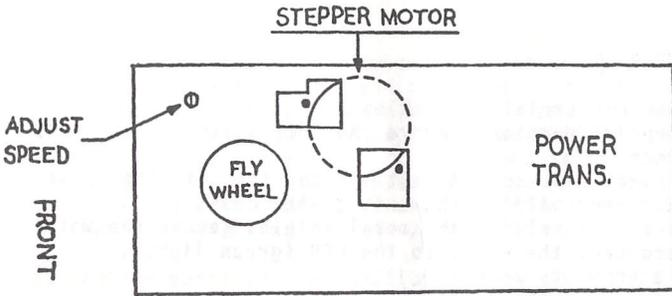
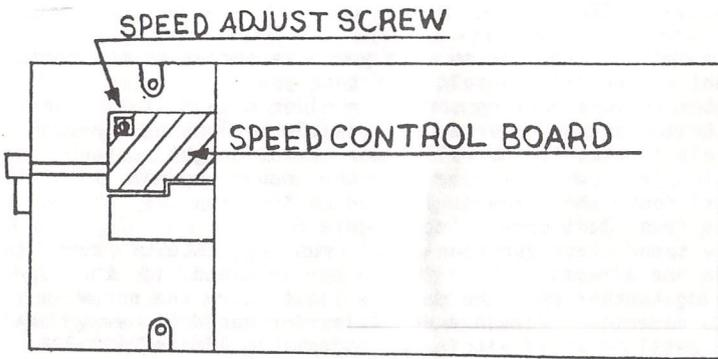

FIG. 1 BOTTOM VIEW
FIG 5 TOP VIEW
- b) Locate the speed adjusting screw. On older models it is located on the bottom of the drive and is visible by looking through a small hole in what is normally the front right corner (see figure 1). If you have one of the newer models with the 'flipper' door, the screw is located on the top of the drive near the front left corner (see figure 5).
- b) With the disk drive on its side and the front facing you, locate the stepper motor on the bottom side of the drive (see figure 1).